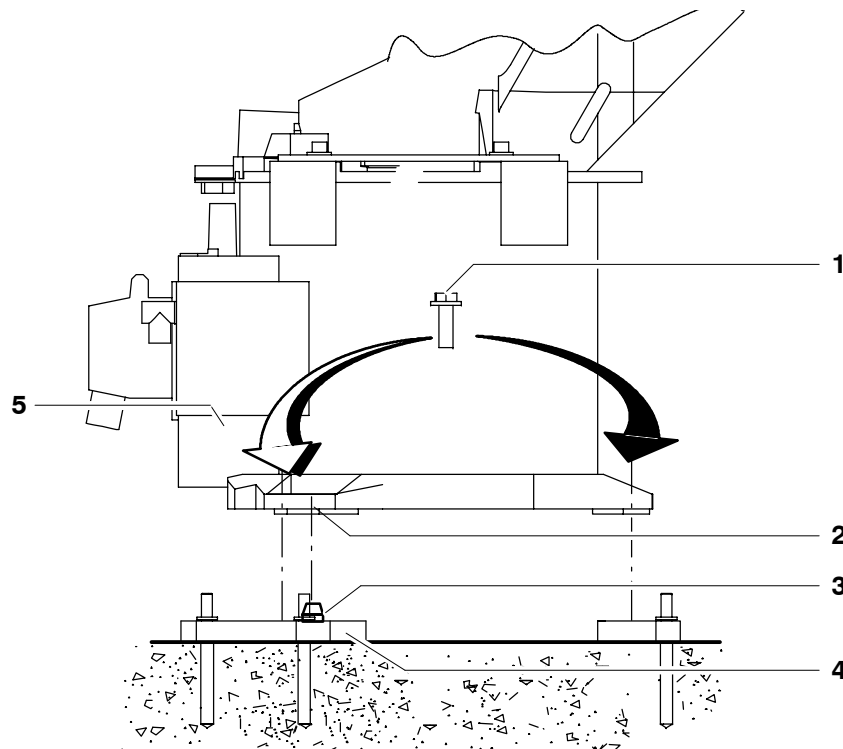

Fig. 63 Installing the manipulator on the floor
- (3) Lower the manipulator (Fig. 63/5) vertically onto bedplates (4) or steel structure. If lifting tackle is used, particular care must be taken to ensure exact vertical positioning in order to avoid damaging the pins during this operation.